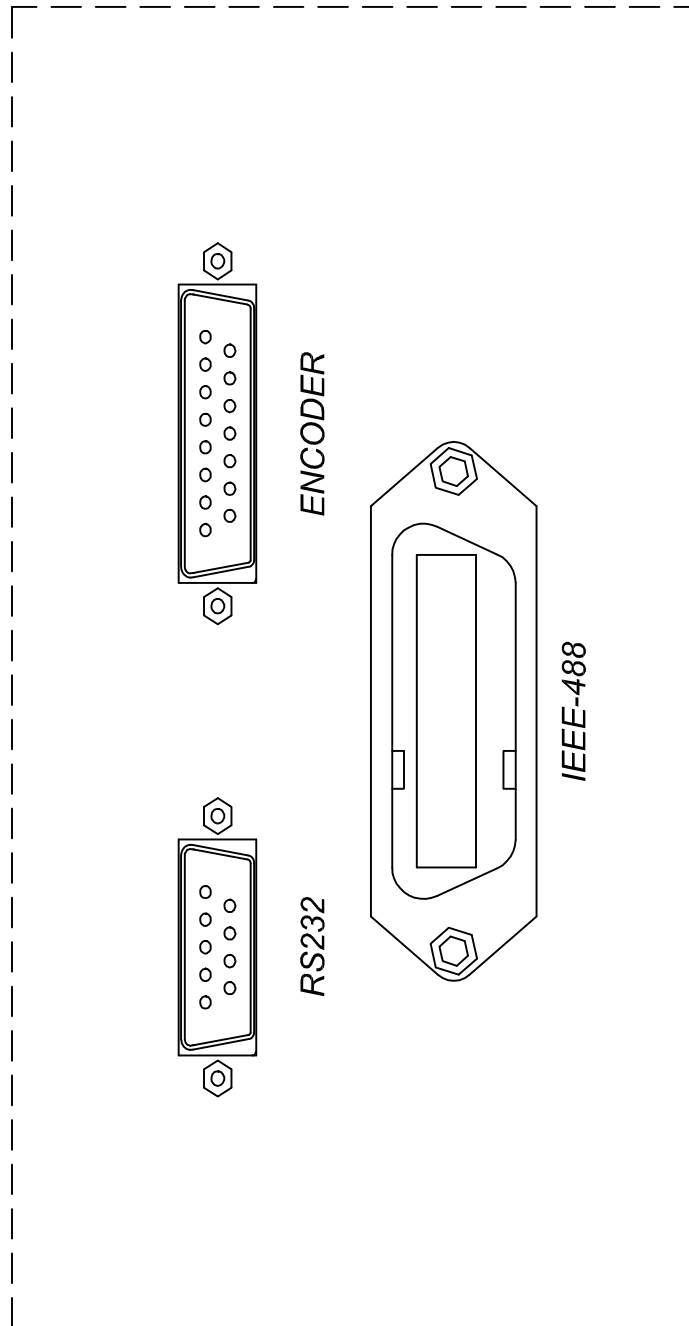

Figure 2.2
This connector is accessed by opening the “Interface Connectors” access panel. The connector is a standard DB-9 female connector used for a serial RS232 interface. It can be connected directly to the “COM” port of a standard PC to allow communication. This port is normally used for downloading “profiles” from a computer. Other remote communication with the 6300 is also possible through this interface. Figure 2.2 shows the RS232 connector (6) with the panel removed. For more details on downloading profiles, please refer to Section 4. For more details on communication with the 6300, please refer to Section 8.